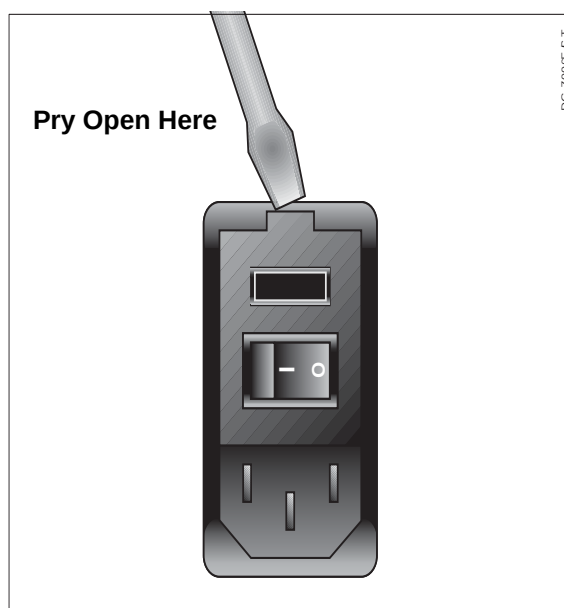

Figure 1.1 Opening the voltage selector cover
The detector is shipped with the voltage and fuses preset for your location. To verify the correct setting, look through the cut-out window on the voltage selector cover (Figure 1.1). (The cover is located on the detector's rear panel but, if your instrument is new, it may be hidden behind a precautionary sticker.) If the voltage setting satisfies your local site requirements, skip to "Fuses" on page 3. If not, proceed to the next section, "Voltage Selection."
1. Insert a small flat-blade screwdriver into the slot at the top of the voltage selector cover (Figure 1.1).